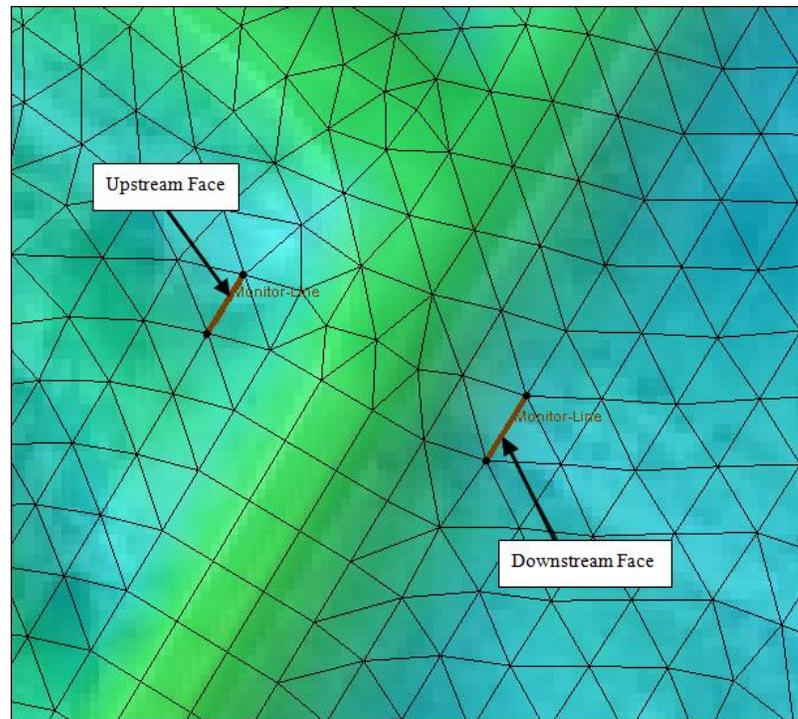

Figure 3 Upstream and downstream gate boundary condition arcs
7. Using the **Create Feature Arc**  tool, create two arcs, one on each side of the road (Figure 3). These arcs will define the upstream and downstream faces of the gate boundary condition.